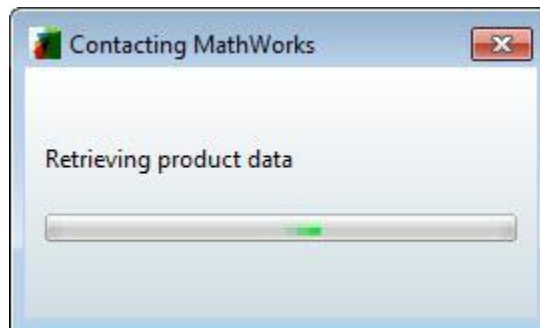

Figure 2-3 Contacting MathWorks Dialog
5. The **Contacting MathWorks** dialog (Figure 2-3) appears and checks the system for a MATLAB installation: